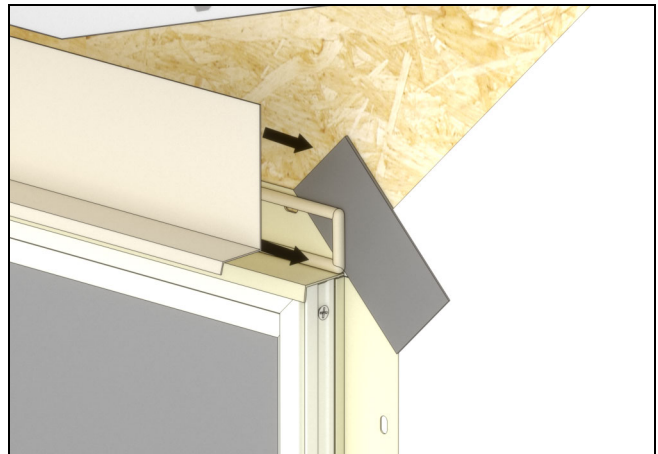

Figure 44
2. **Optional:** Install a rigid head flash. Seal both horizontal and vertical legs of the rigid head flash. See Figure 44.